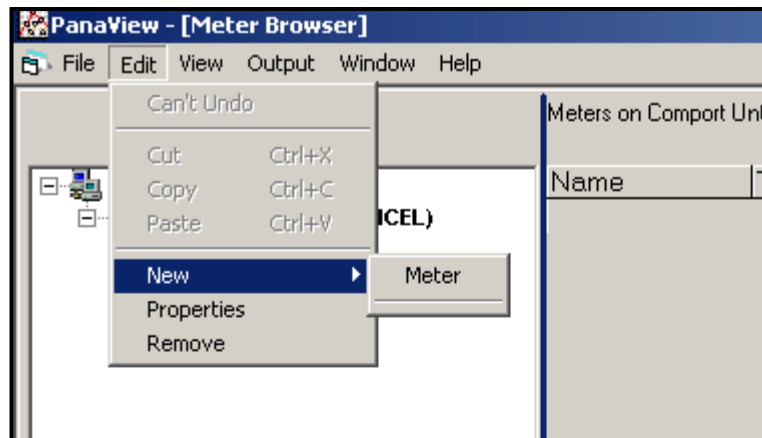

Figure 35: New Option in the *Edit* Menu
2. Click on the *New* option in the *Edit* menu (see Figure 35).